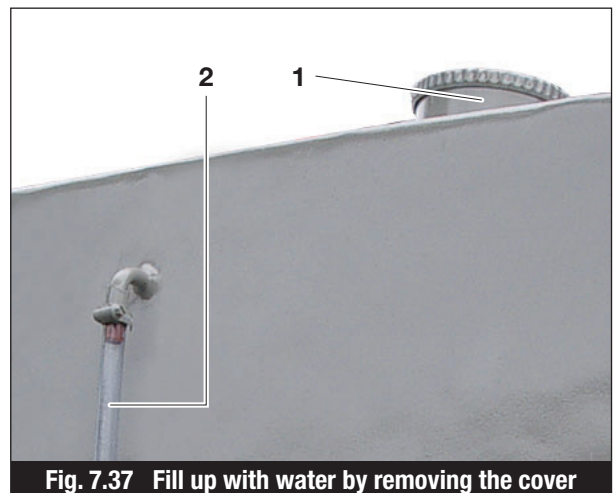

Fig. 7.37 Fill up with water by removing the cover
- Start filling with water; watch the water sight hose (Item 2, Fig. 7.37).